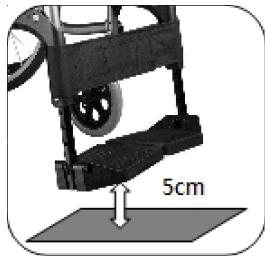

Figure 4.33
- The distance between the footplates to the floor must be more than 5 cm from the floor. (See Figure 4.33)